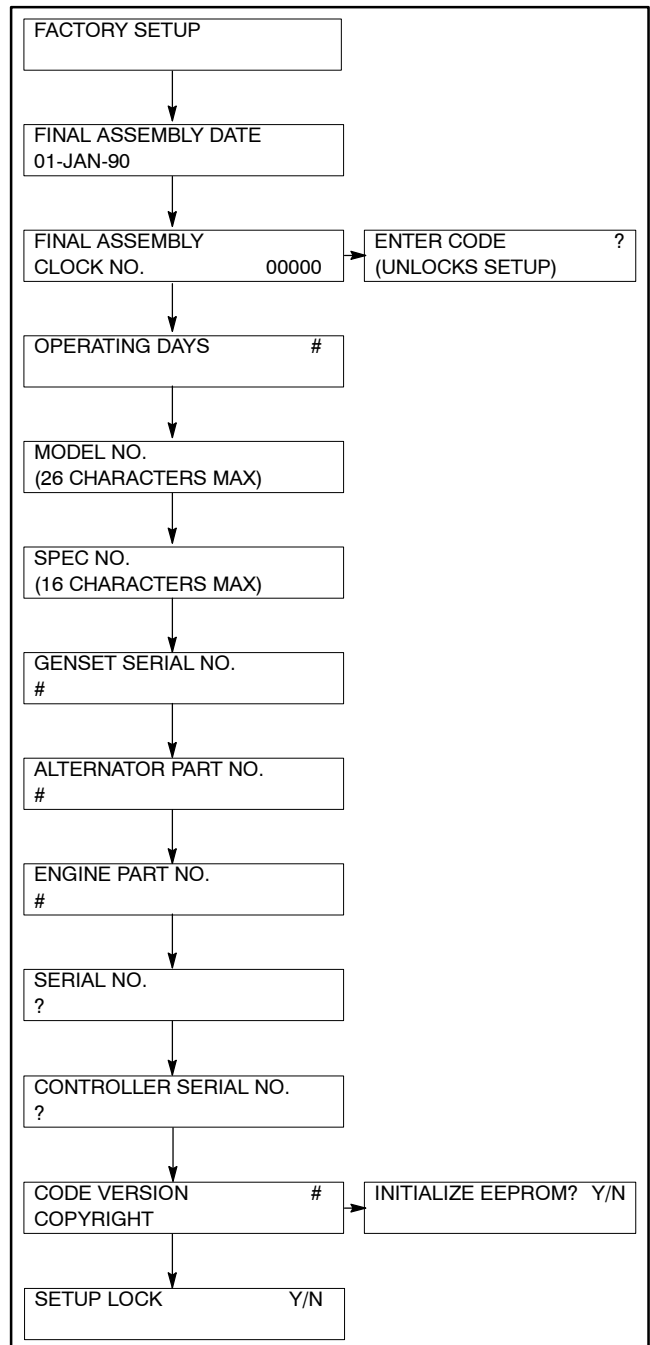

Figure 6-4 Menu 20, Factory Setup
d. Use the controller keypad to go to menu 20, Factory Setup. See Figure 6-4 for displays.
(1) Arrow down to the CODE VERSION display.
(2) Arrow right to the INITIALIZE EEPROM display.
(3) Press the YES key to initialize the EEPROM.
(4) Press the ENTER key.
i. Go to menu 20, Factory Setup. See Figure 6-4 for displays.
(1) Arrow down to the FINAL ASSEMBLY DATE display.
(2) Enter the final assembly date using the data recorded from the old controller. If data from the old controller is not available, keep the default setting.
(4) Press the ENTER key if making a new entry.